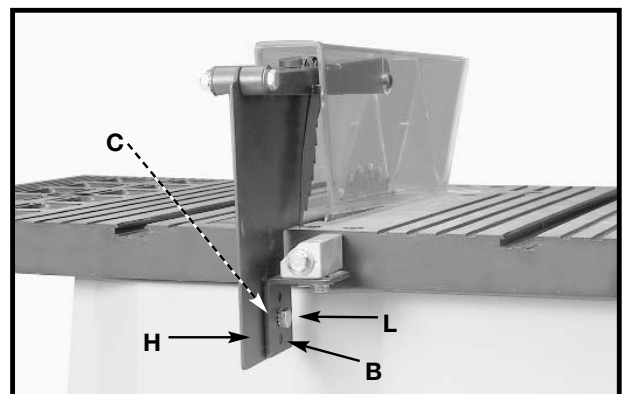
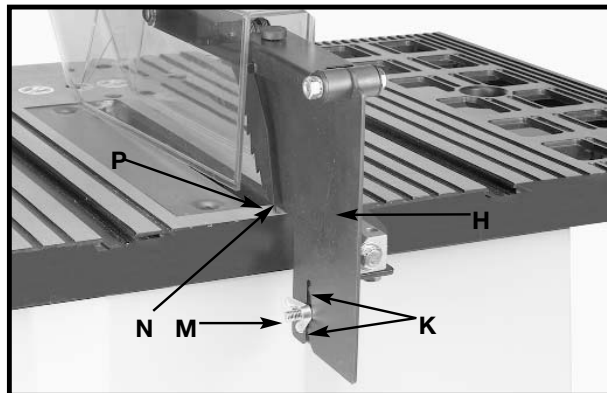

Fig. 22
Fig. 23
6. Attach the splitter (H) Fig. 22 to the splitter support bracket (B). Place a 1/4" external tooth lockwasher and an M6.4 flat washer on an M6x1x20mm hex head screw (L).
7. Insert the screw (L) Fig. 22 through the splitter support bracket (C) and the splitter (H). Place an M6.4 flat washer and a 1/4" external tooth lock washer on the screw (L). Thread an M6x1 wing nut (M) Fig. 23 on the screw (L) Fig. 23.
**NOTE:** Before tightening the wing nut (M) Fig. 23, make certain a gap of at least 1/8" is between the bottom edge of the splitter (N) and the top surface of the table (P) and that the protrusions (K) are inside the slot of the splitter assembly (H).